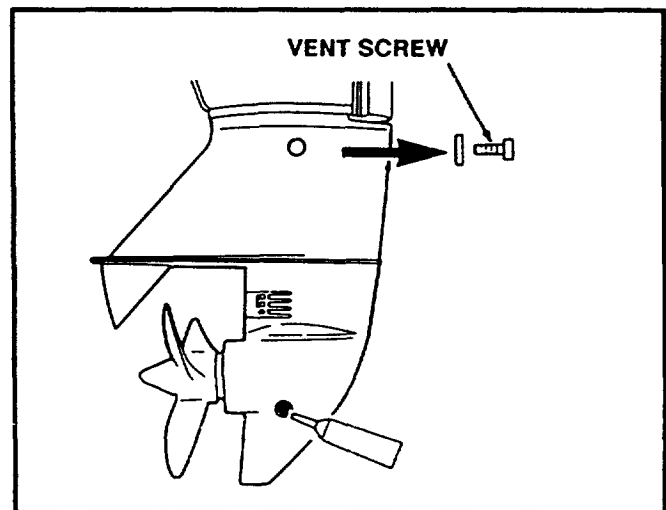

FIGURE 34
- Remove vent screw and washer (Figure 34).